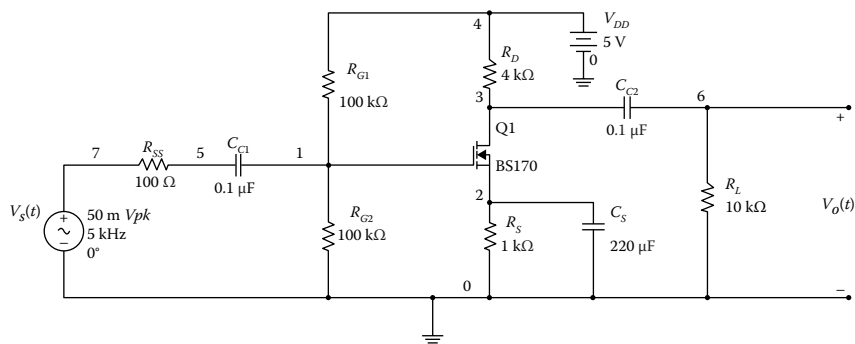

FIGURE P7.12
Problem 7.12 Use the Analog Discovery board to determine (1) the magnitude response of the circuit shown in Figure P7.12, (2) midband gain, (3) low cut-off frequency, (4) high cut-off frequency, and (v) bandwidth of the amplifier.